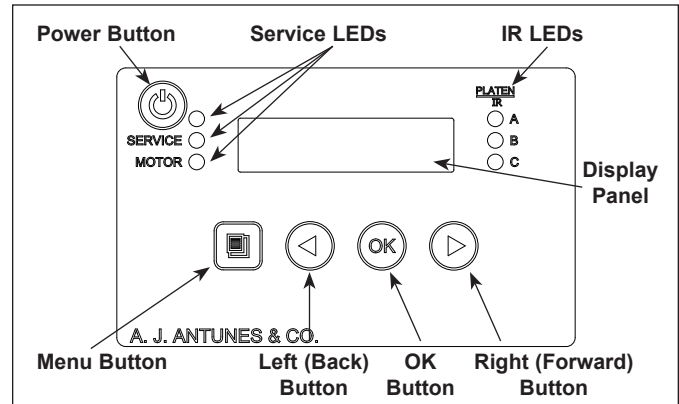

Figure 3. HRT-5H Control Panel
2. See Figure 3. Press and hold the **MENU** button for five seconds.
1. When the unit is plugged in, press and hold the **MENU** button (Figure 3) for five seconds. The control panel displays "Heater A" The display shows the setpoint, operating current, and SSR Duty cycle.